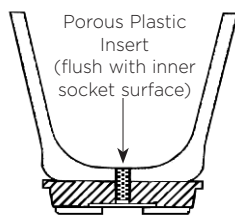

Figure 3
3. To prevent dirt and debris from clogging the airway, place the Porous Plastic Insert inside the 7 mm (9/32") hole. Make sure the Porous Plastic Insert is flush with the inner surface of the socket (Figure 3). If the hole was drilled at an angle, cut or sand the Porous Plastic Insert at an angle as well (Figure 4).